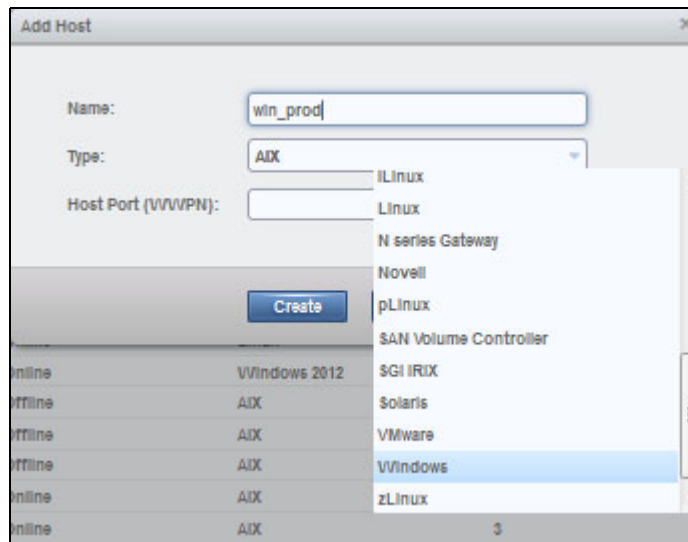

Figure 11-72 Add Host window that shows all available host types
7. The Add Hosts window opens (Figure 11-72). Specify the following items: